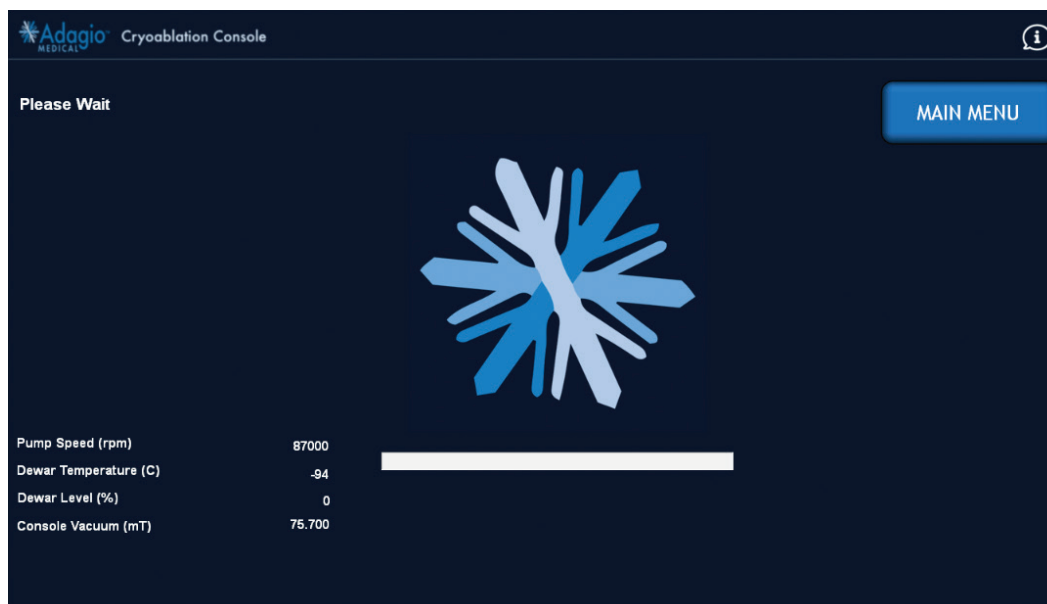

Figure 20 –Console Purge In-progress Screen Image
6. To refill LN2, from *Figure 17* screen, press “REFILL” to fill liquid nitrogen tank. The console will start purging as needed, to remove any residual moisture from the system (*Figure 20*).